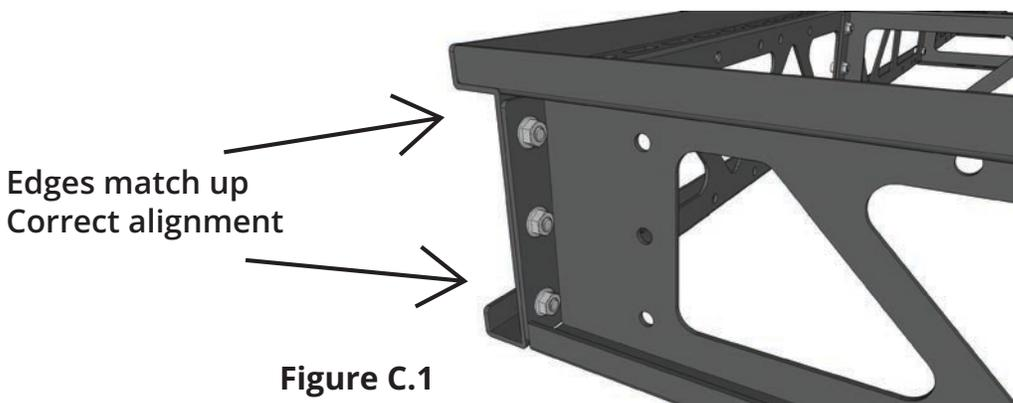

Figure C.1
Attach the second Rim Joist to the assembly, again using (3) 3/8"-16 x 3/4" socket head screws and (3) 3/8"-16 flange nuts at each joint. Once all joists are connected, tighten bolts to a recommended torque of 20 foot-pounds. When tightening the corners, ensure the edges are properly aligned [see Figures C.1 and C.2].